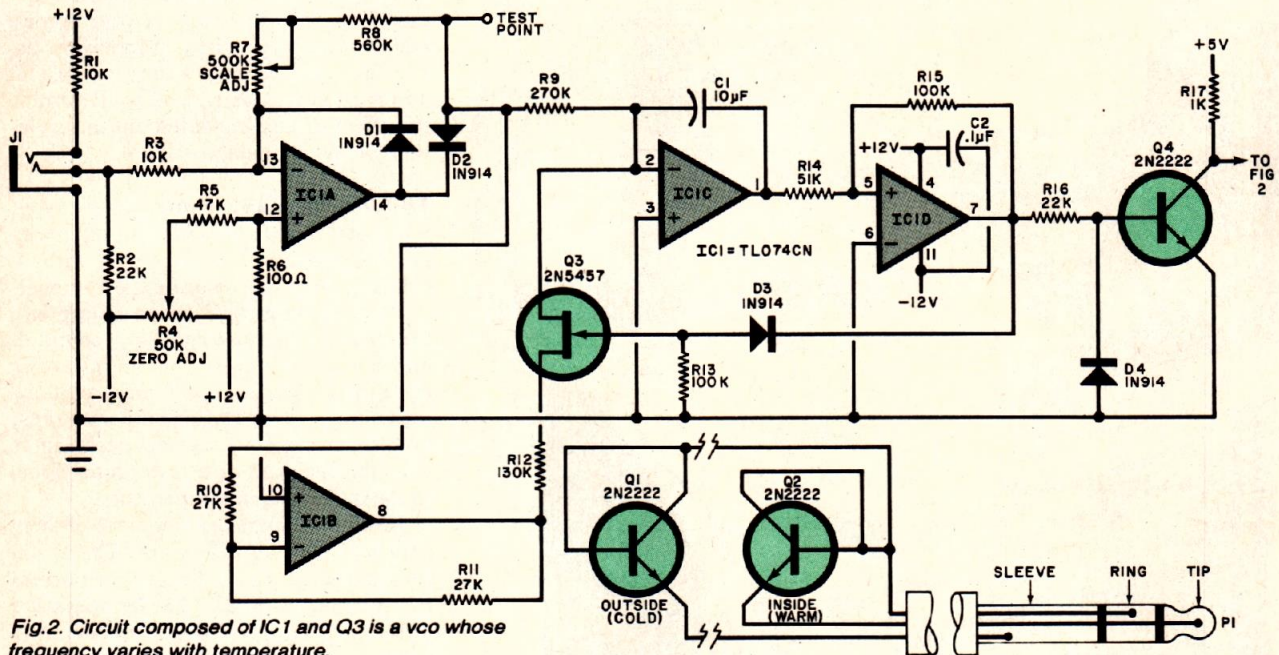

Fig. 2. Circuit composed of IC1 and Q3 is a vco whose frequency varies with temperature.
**Circuit Design.** The subtracting and integrating circuits are shown in Fig. 2. Indoor and outdoor temperatures are sensed by silicon transistors *Q1* and *Q2*, which are connected as diodes. A constant current passing through a silicon diode junction develops a voltage drop that varies approximately linearly with temperature at a rate of 1.2 mV/°F. The two sensors are connected in series opposition, so that the voltages across them are subtracted. The difference voltage taken from the junction of the two transistors is proportional to the difference between the two temperatures.
The sensor circuit (Fig. 2) is made by soldering the base and collector of each transistor together to form one lead. Select a length of slender two-conductor zipcord having sufficient length to reach the meter from each selected location. At one end, separate the leads for an inch or so. Remove about 1/4-inch of insulation and slip a short length of narrow heat-shrinkable tubing on each lead, solder one to the base-collector lead and the other to the emitter lead. Slide the heat-shrinkable tubing down over the soldered connection and shrink it. The outdoor sensor (*Q1*) can be encapsulated in epoxy if it is not mounted in a weatherproof location. After both sensors are fabricated, connect the far ends of both pairs to the stereo-type phone plug.
**Operation.** To calibrate the degree-day meter, all you will need is a dc voltmeter and an ordinary thermometer. Then proceed as follows: Connect the voltmeter between the test point shown in Fig. 2 and ground. Set the voltmeter for its most sensitive dc voltage range, and place the sensors close to each other. Turn on the degree-day meter, allow it to stabilize for 10 to 15 minutes, and then adjust *R4* for exactly zero volts on the dc voltmeter. Then place the outdoor sensor in a cool place (outdoors or in the refrigerator), and adjust *R7* until the voltmeter indicates  $-0.1$  volt for every degree of difference in the temperatures between the sensors. For example, if the inside temperature is  $70^{\circ}\text{F}$  and the outside sensor is at  $40^{\circ}\text{F}$ , adjust *R7* for  $(70-40) \times -0.1$  or  $-3.0$  volts at the test point. Install the sensors where desired and you're ready to measure degree-days. The outside sensor should be mounted in a shaded location away from the house and protected from the weather. The inside sensor should be mounted in a central location away from heat sources.